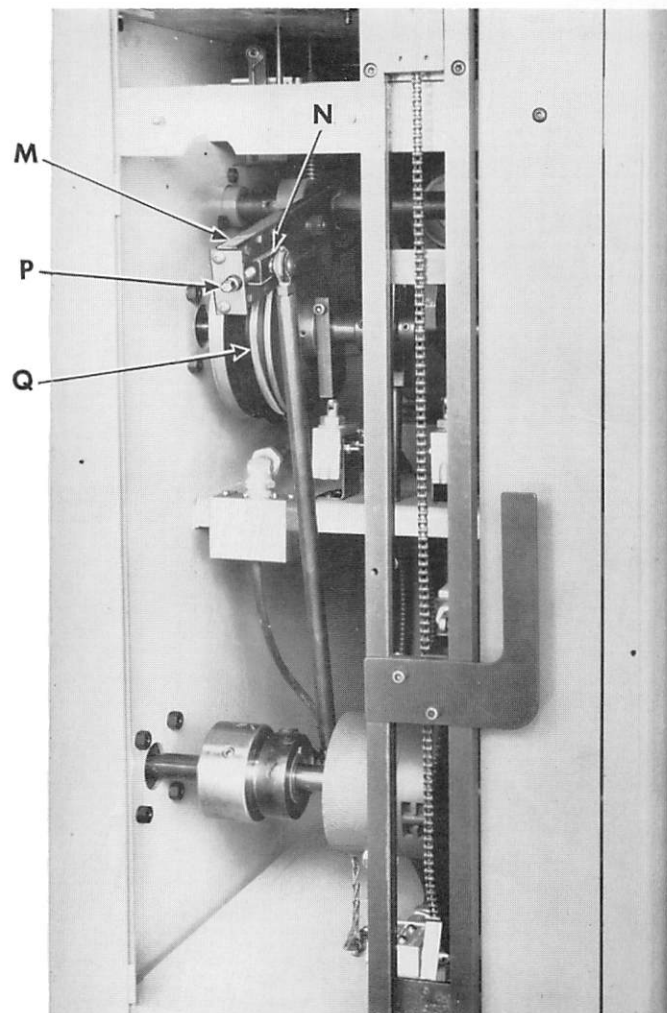

Fig. 5. Adjusting Space between Buttonholes
1. Loosen the 6 gib screws in slide M, Fig. 5 only enough to permit slide block N, Fig. 5 to be moved by means of adjusting screw P.
5. Tighten the 6 gib screws in slide M, Fig. 5 and lock these screws in place by means of their respective lock nuts.